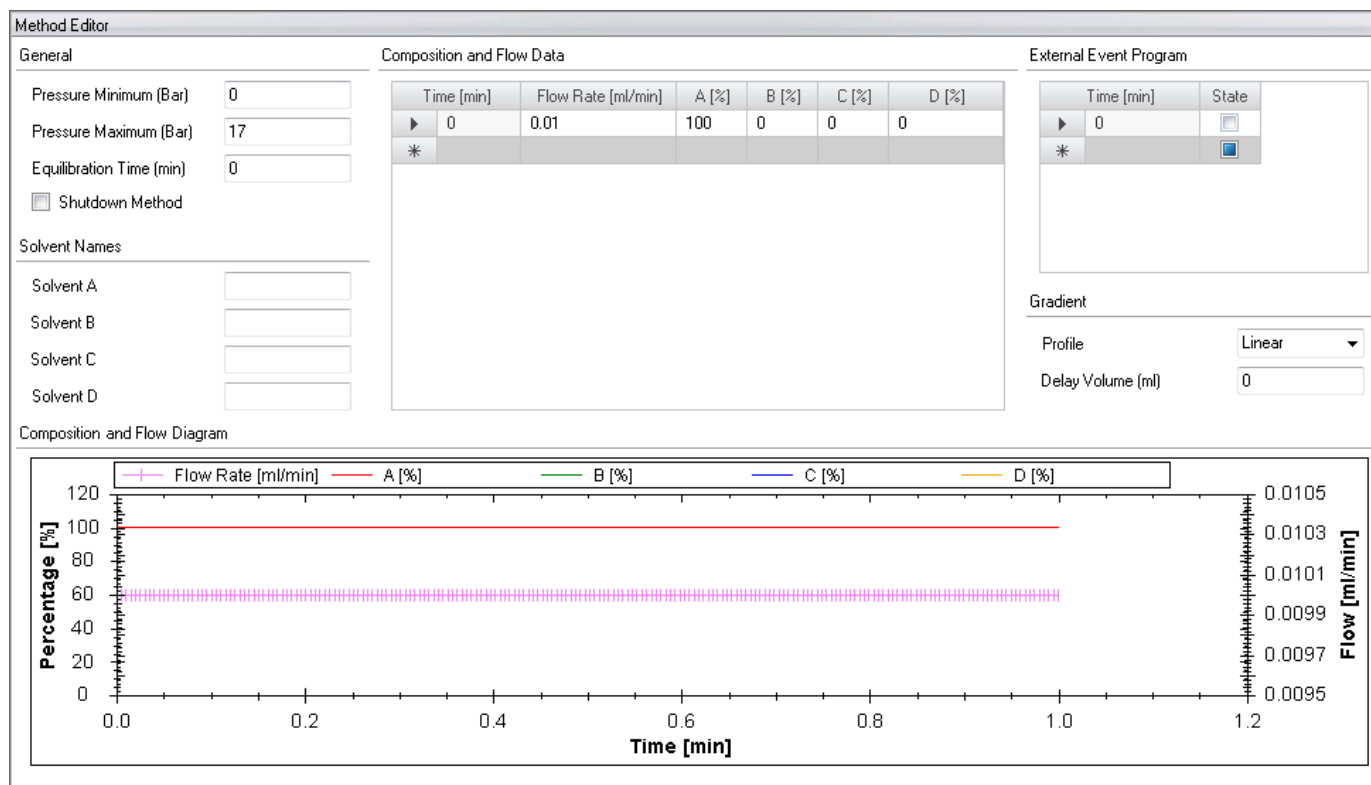

Figure 6-85. SpectraSystem LC pump settings
4. Click  SpectraSYSTEM® LC Pump, see Figure 6-85.